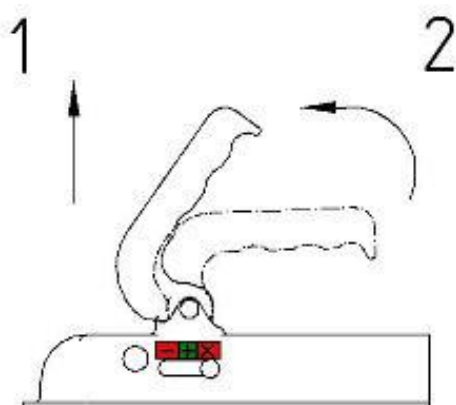

Figure 3: uncoupling the coupling device.
- Press on the safety catch of the coupling device, pull the handle up, and then move in the direction 2 shown in Figure 3 until the device is uncoupled and released from the ball mount. Lift the coupling device slightly away from the ball mount, paying attention to the trailer weight – avoid potential injuries;